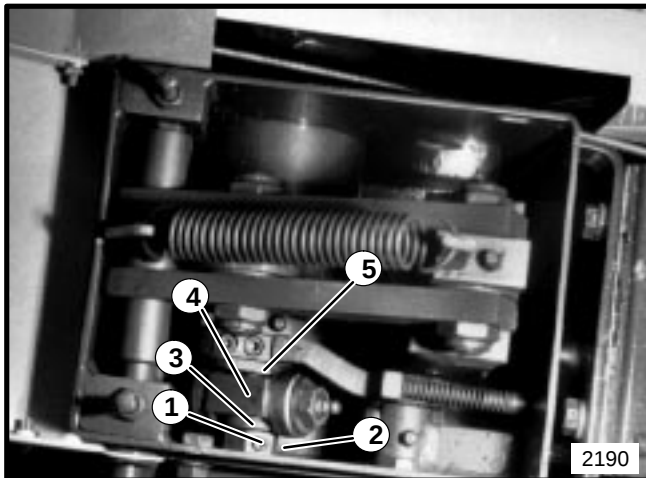

FIGURE 24
3. From the right side of the cut-off, remove set screws and brass plugs from the adjusting nut. Remove the adjusting nut, washers, yoke, cam, and thrust bearing. See Figure 24.